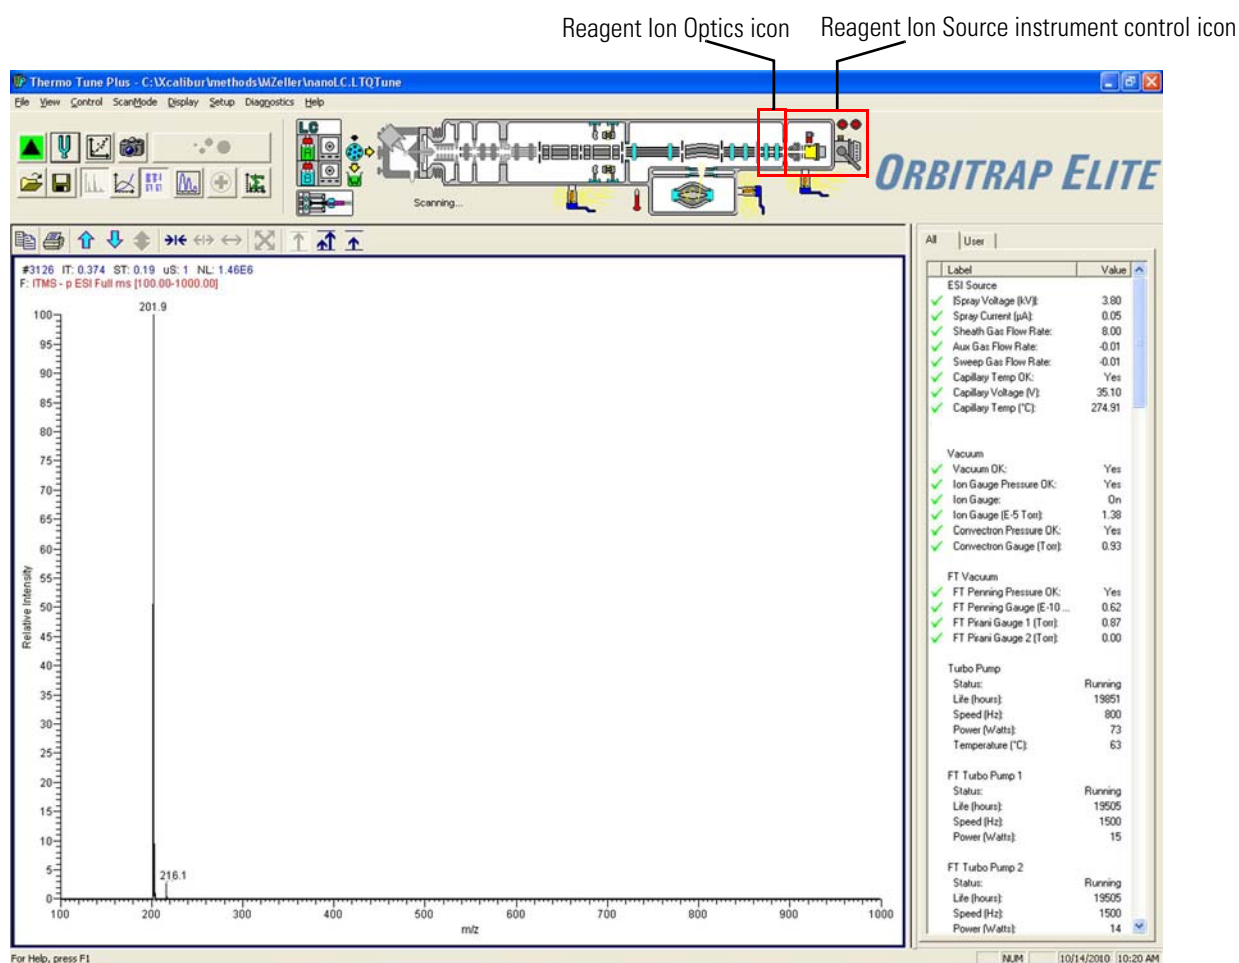
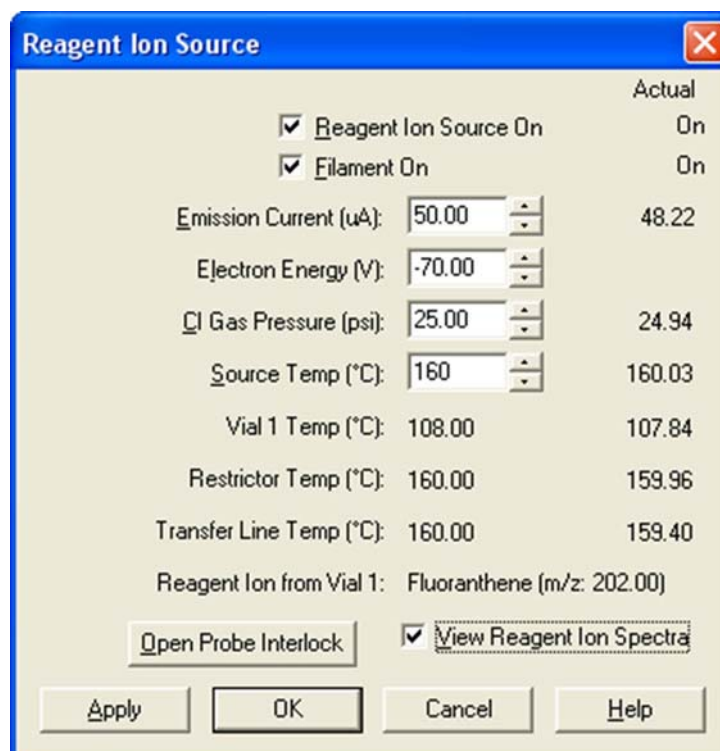

Figure 7-1. Status View for Orbitrap Elite ETD MS
Figure 7-5. Reagent Ion Source dialog box
The Tune Plus window shows a schematic view of the Orbitrap Elite ETD instrument. See Figure 7-1. The instrument control icon in the toolbar allows accessing parameters for the reagent ion source and the reagent ion optics.
Use the Reagent Ion Source dialog box to set selected ETD reagent ion source parameters. See Figure 7-5 on page 7-6. The actual parameter values are shown on the right side of the dialog box.
1. Click the **Reagent Ion Source** instrument control icon in the toolbar of the Tune Plus window. (See icon in margin and Figure 7-1 on page 7-2.) The Reagent Ion Source dialog box appears. (See Figure 7-5 on page 7-6.)
2. In the Reagent Ion Source dialog box, click the **Reagent Ion Source On** check box. (See Figure 7-5.) If the reagent vials are not at their target temperature, a message box appears. See Figure 7-9. When the reagent vials reach their target temperature, voltage is applied to the ETD Module ion optics. The filament automatically turns on; the Filament On check box automatically shows a check mark and its actual condition switches from Off to On.
You can also tune the reagent ion source. When the Reagent Ion Source dialog box is open (See Figure 7-5 on page 7-6.), click the **Tune** button in Tune Plus.